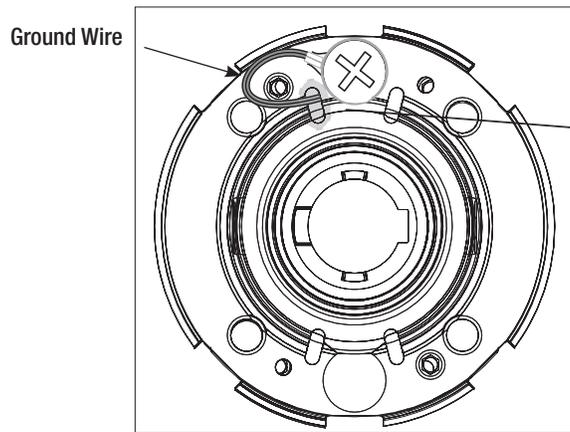

Fig. 8B Detail
- NOTE:** Proper placement of ground wire (Fig. 8B) will prevent pinching/damage to the ground wire.
3. Secure rose assembly with (2) #10-32x1-1/4" through-bolts.
4. Secure latch by fully tightening (2) #6 x 3/4" self-tapping screws (refer to previous section 3 - Install Latchbolt).